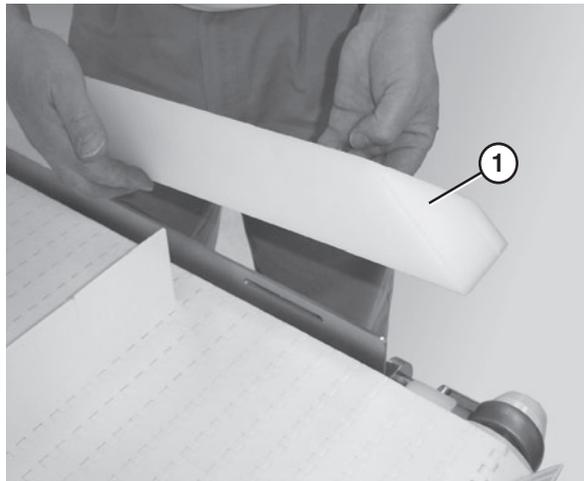

Figure 57
2. Remove the guide (Figure 57, item 1).